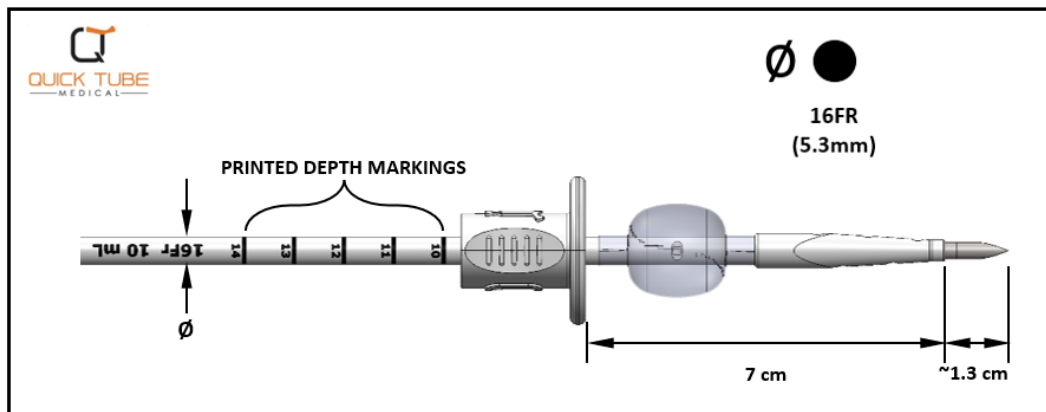

Figure 2: QT Chest Tube Dimensions (Not to Scale)
The QT Chest Tube is available in 16FR. Physicians should ensure the size of the device is appropriate for the specific procedure and patient. Printed graduation marks (7), measured in centimeters, indicate distance as measured from the distal tip of the chest tube (8) (see Figure 2.)
- a. Remove the plastic needle tip protector (not shown) to expose the balloon and sharp, beveled needle tip ②.
- b. Complete a standard balloon functionality check by filling one (10 mL) syringe with 10 mL of air. Firmly attach this air-filled syringe to the Inflation Valve ⑪ and inflate the Subcutaneous Balloon ④ with 10 mL of air and deflate by pulling back on the plunger while maintaining pressure on the Inflation Valve ⑪.
4. Attach the second (10 mL, not shown) syringe to the Aspiration Syringe Port ⑨ located in the Introducer Handle/Needle ①.
6. The Depth Markings on the chest tube (per Figure 2) can be utilized to assist in controlling and confirming insertion depth.
7. Once inserted into the pleural space, begin pulling back on the plunger of the syringe attached to the Introducer Handle to aspirate air or fluid from the pleural space. If the Locking Stabilizer ⑤ meets the skin prior to successful aspiration, pinch the contoured sides of the Locking Stabilizer ⑤ to release it and then retract as needed to allow for more length of the device to be inserted.
9. While gripping the hub of the chest tube with one hand, grip the Introducer Handle ① and twist counterclockwise to unscrew it from the hub of the catheter.
10. Withdraw the Introducer Handle/Needle ① 2-3 centimeters.
13. Fill the first (10 mL) syringe with 10 mL of air. Firmly attach this air-filled syringe to the Inflation Valve ⑪ and inflate the Subcutaneous Balloon ④ with 10 mL of air. While maintaining pressure on the plunger of the syringe, quickly remove the syringe from the inflation valve. Gently pull back on the chest tube to confirm that the balloon is holding the chest tube in place within the pleural cavity.
16. Position the One-Way Valve Assembly ⑥ in-line with the chest tube and secure the parts together by connecting the Male/Male Luer Connector ⑬ to the Luer Fitting ⑩.